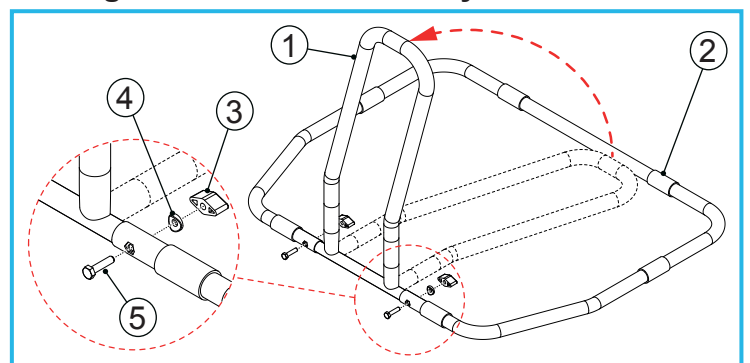

Figure 3: RHS Assembly
1. Refer to Figure 3. Position the bed rail base (2) as shown.
2. Rotate the bed rail handle (1) 90 degrees.
3. Insert the bolts (5) into the holes, making sure they locate fully into the hexagonal recess.
4. Replace the two saddle-washers (4) and secure with the two plastic wing-nuts (3).
5. Make sure the bed rail handle (1) is fully secure before installing to the bed.